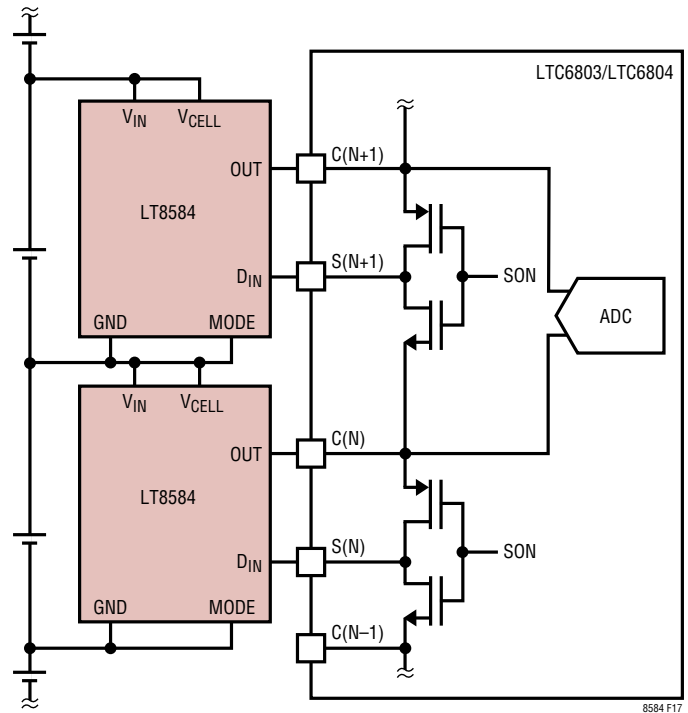

Figure 17. LTC6803/LTC6804 Simplified Connections
The LTC680x has an internal multichannel differential ADC that measures the voltage between each consecutive pair of C pins. Figure 17 shows the ADC connected to C(N) and C(N+1), measuring the difference between the two adjacent LT8584’s OUT pins. Most parameters require two measurements, one with the top LT8584 selecting V_{CELL} and another one with the top LT8584 selecting the desired parameter. The difference between these two measurements yields the desired parameter value. This is required since the LTC680x is not directly connected to the battery cells. See the Serial Mode Differential Measurements section for more detail.
internal impedance from V_{CELL} to OUT is approximately 55Ω. Note that the effective capacitance on the OUT pin becomes 2× 47nF or 94nF. Figure 17 has omitted these capacitors for the sake of simplicity (see the Typical Applications for proper connection of the filter capacitors).
Clarified Figures 17, 18	30, 31